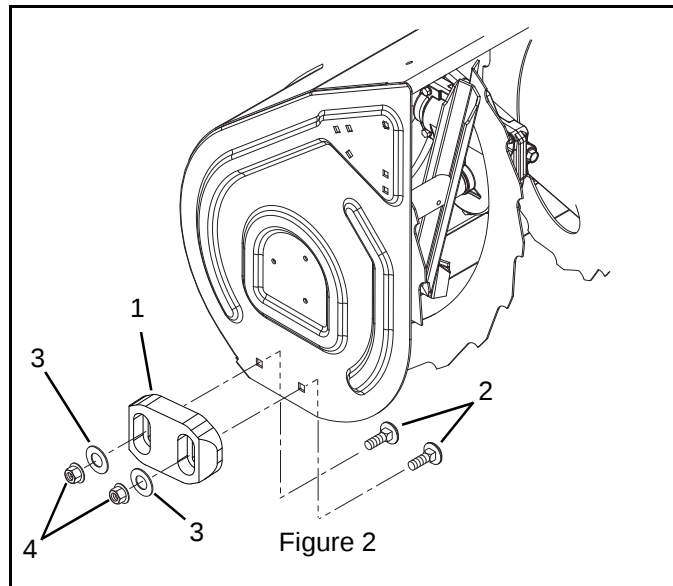

Figure 2
4. Mount composite runners (item 1) to auger housing using 3/8-16 x 1-1/4" bolts (item 2), flat washers (item 3) and 3/8" nuts (item 4). See Figure 2.